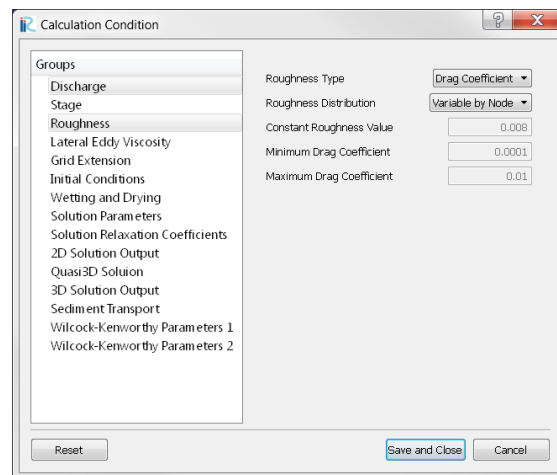

Figure 27. Calculation condition, roughness dialog
- From the **Menu Bar** select Calculation Condition ► Setting. In the Calculation Condition dialog select roughness and change the settings to look like Figure 27. Select the Save and Close button.